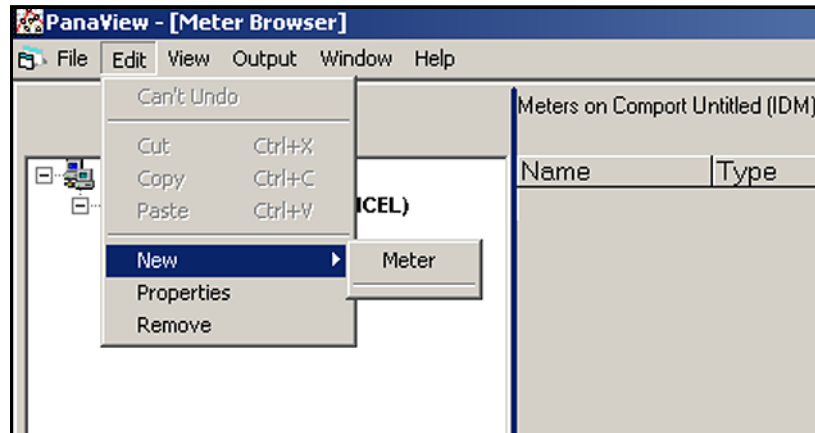

Figure 20: Edit Menu - "New" Option
2. Click on the “*New*” option in the “*Edit*” menu (see *Figure 20* below).